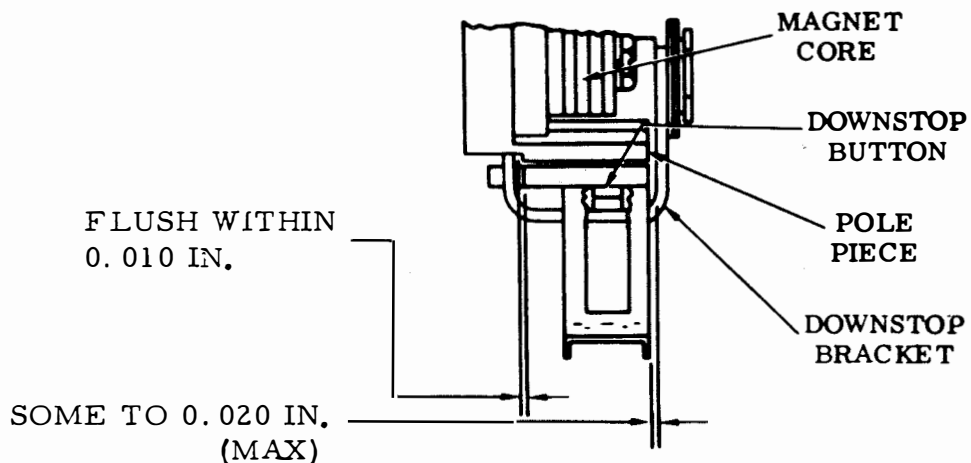

Figure 6-95. Selector Armature Alignment (RFI), Left Side View
- (1) Refer to Figure 6-95.
(2) Ensure rear edge of armature is flush with rear edge of pole piece within 0.010 inch.
(3) Ensure there is some clearance not exceeding 0.020 inch maximum between front edge of armature and pole piece and inside of downstop bracket.
(4) Loosen mounting screws.
(5) Position armature so that armature spring has enough initial tension to hold armature firmly against pivot edge of casting.
(6) Tighten mounting screws.